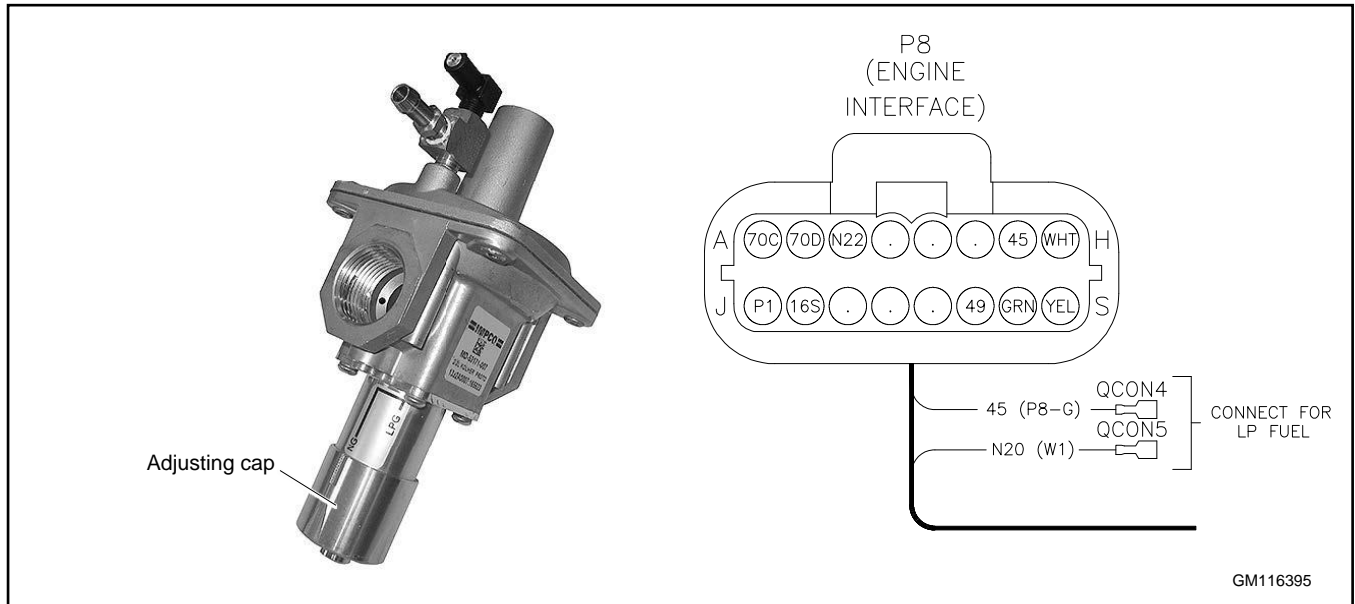

Figure 22 Fuel Pressure Regulator and Fuel Conversion Connections
1. Push the adjusting cap to its upper stop and rotate toward the LPG marking, release upward pressure, and lock into place. Figure 22.
2. **For LPG fuel only**, use the quick-connect adapters to connect wire N20 from the fuel pressure regulator to wire 45 from the ECM wiring harness. Figure 22.
1. Push up on the adjusting cap and rotate toward the NG marking. Release upward pressure, and lock into place. Figure 22.
2. Disconnect wire N20 and wire 45. Figure 22.